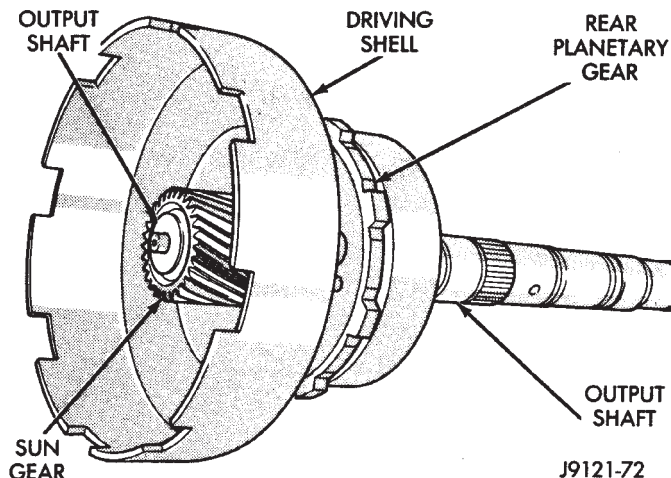

Fig. 184 Installing Sun Gear And Driving Shell
(7) Lubricate sun gear bushings with petroleum jelly or transmission fluid.
(8) Install sun gear and driving shell on intermediate shaft (Fig. 184). Seat shell against rear planetary gear. Verify that thrust washer on planetary gear was not displaced during installation.